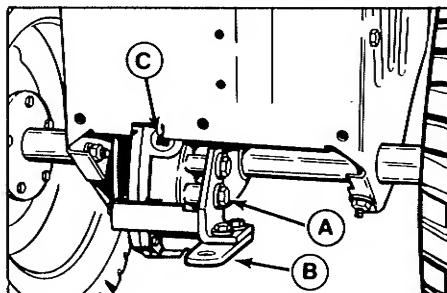

Figure 14. Transmission Oil Level Check (Drawbar Removed)
- Remove the transmission oil level check capscrew (A, figure 14).
- Oil should be level with bottom of hole. If not, remove the fill plug (C) and add Allis-Chalmers Power Fluid 821.